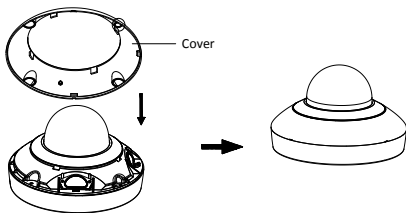

Figure 2-4 Install the Cover
5. Align the cover with the camera, and install the cover back, as shown in Figure 2-4.